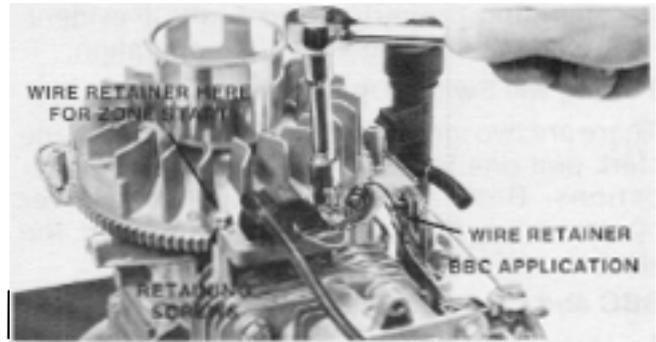

Figure 3-19
4. The ignition coil may now be removed from its mounting bosses. Be sure to unplug the kill wire. See Fig. 3-19.
- Install the ignition coil. Mount a wire retainer on either the right or left side of the coil, depending on the brake system used. Refer to Fig. 3-19.